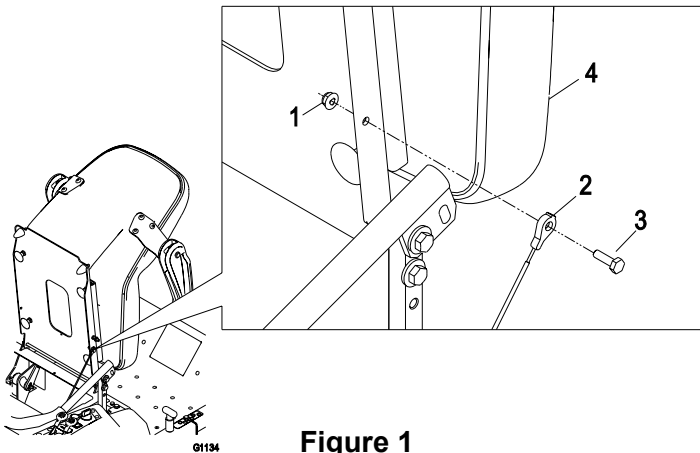

Figure 1
2. Tilt seat downward and align lanyard to the hole in the side of the seat (See Figure 1).